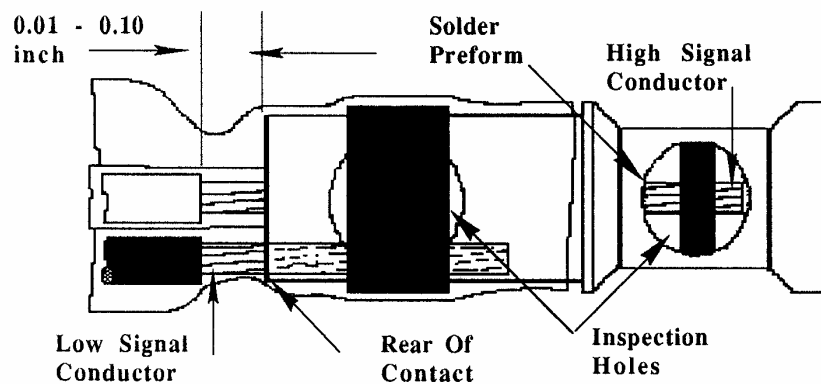

Figure 5-15. Inspection for Proper Cable Insertion
5. Inspect the wires for proper positioning inside the SolderTact contact (Figure 5-15).